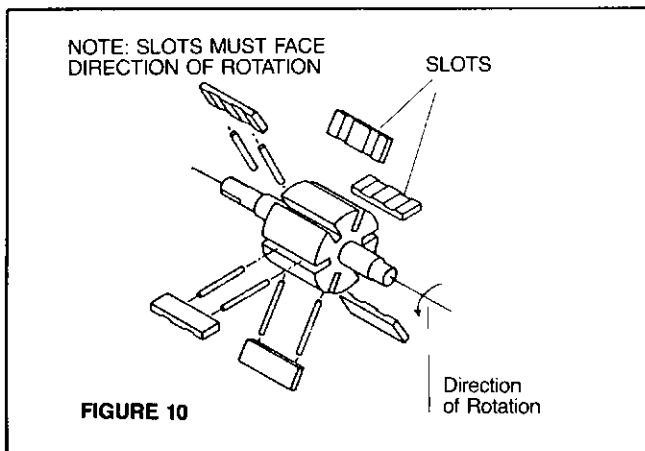

FIGURE 10
5. Slide in the remaining three vanes from the end of the rotor making sure the slots are facing the direction of rotation. See Figure 10.